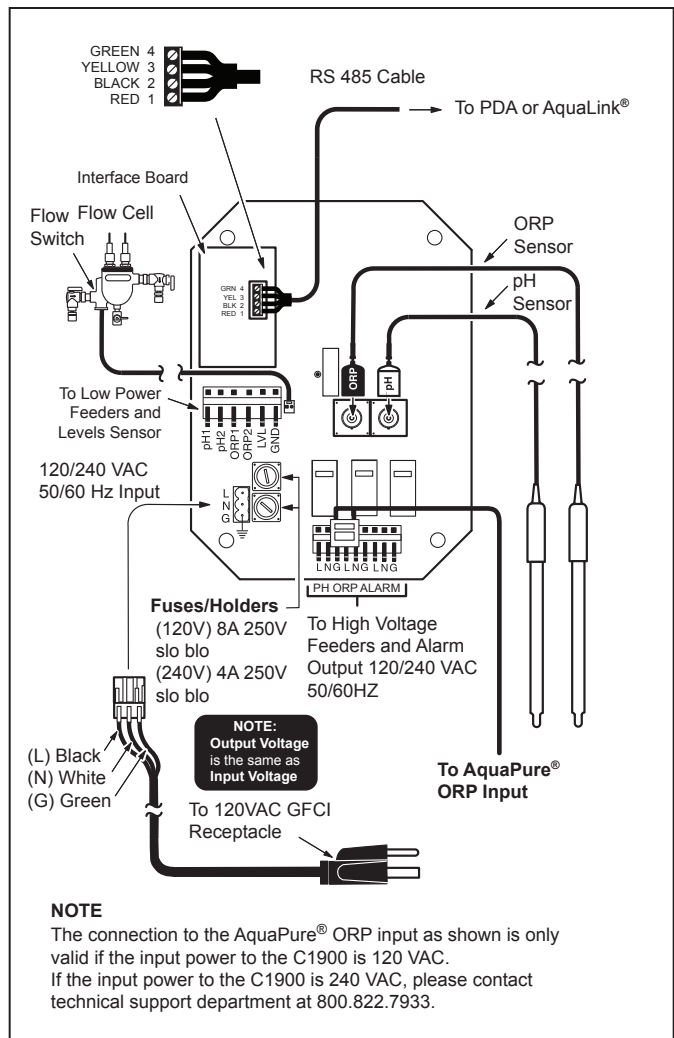

Figure 10. Controller Electrical Connection
4. Insert the AquaPure® ORP board into the terminal block. See Figure 10.
4. On the C1900 controller PCB board, connect the RS485 cable to the AquaLink® RS485 Interface Board as shown in Figure 10.